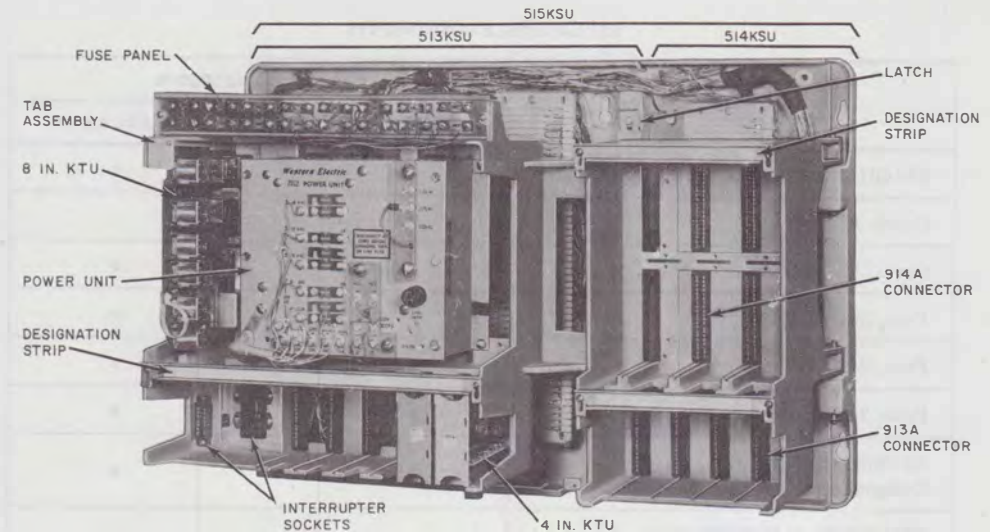

Fig. 1—515A3 Key Service Unit, Cover Removed
- 513-, 514-, and 515-type KSUs, Fig. 1, provide mounting and connecting facilities for 400-series KTUs used to provide 1A2 KTS services.